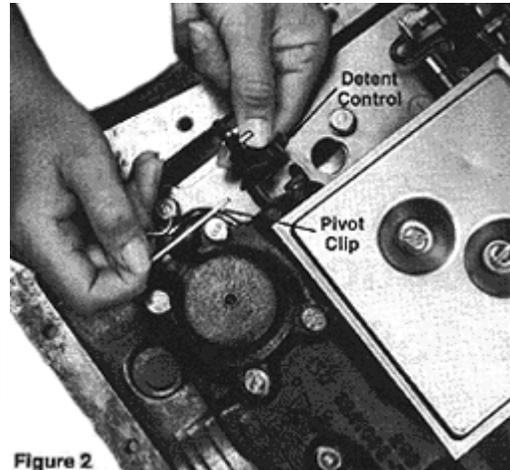
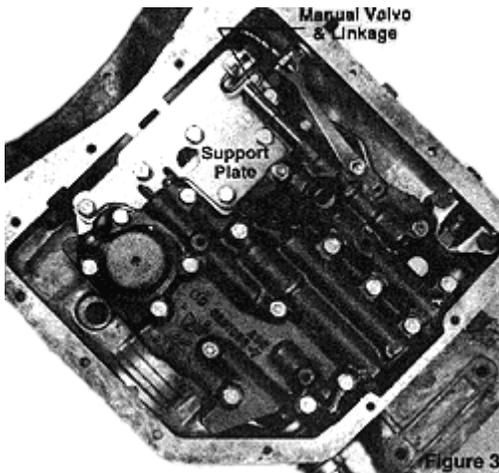

Figure 2
Figure 3
STEP 4 Remove pivot clip holding detent control valve lever in place. (See Figure 2) Remove lever also and set them in the tray. Remove eighteen (18) valve body attaching bolts. (See Figure 3) Remove valve body by pulling straight down and disengaging manual valve and link from manual lever. (Do not let manual valve fall out of valve body.) Put the valve body in the oil pan.